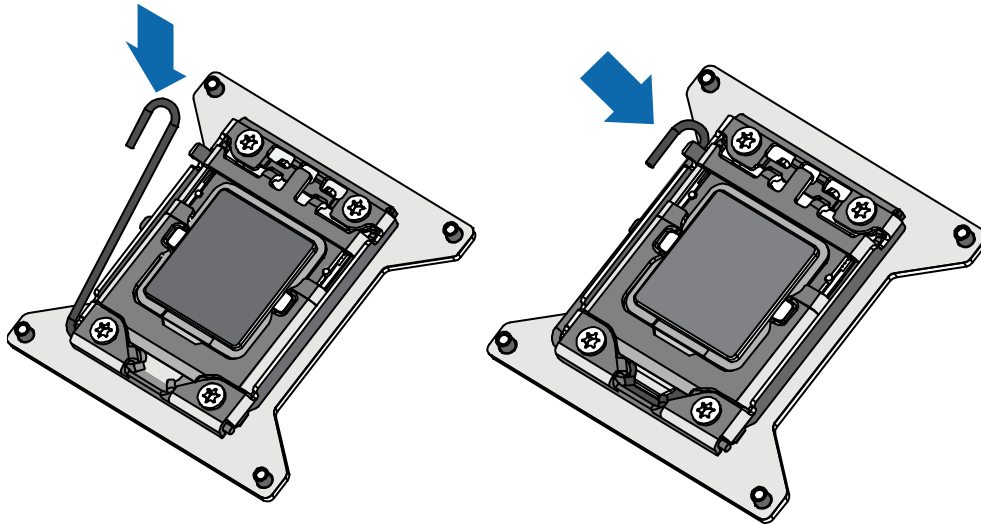

Figure 2-11 CPU locking
Step 5: Close the up cover of CPU Socket and snap the locking rod in place, shown as the figure 2-11.